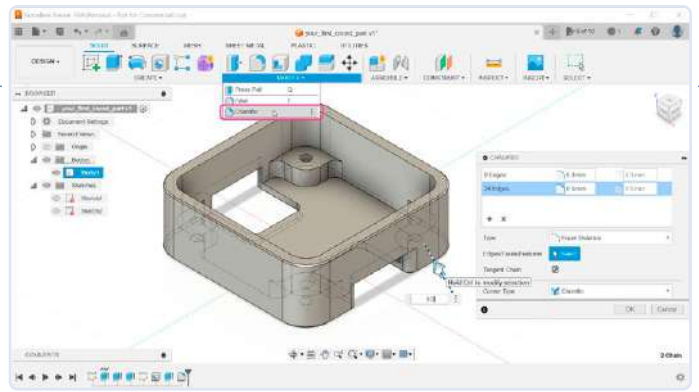

Figure 20: Smoothing the external edges.
20) The sharp edges on the outside could be smoothed using the **Chamfer** tool. Select it (**Figure 20**) from the **Modify** submenu and select the outer edges of the enclosure. For the top edge, I have used a minimal value of just 0.3 mm. For the bottom edge, a higher value of 0.5 mm was used. You can chamfer multiple edges with different values simultaneously by using the **Add Selection Set** button in the **Chamfer** dialog.